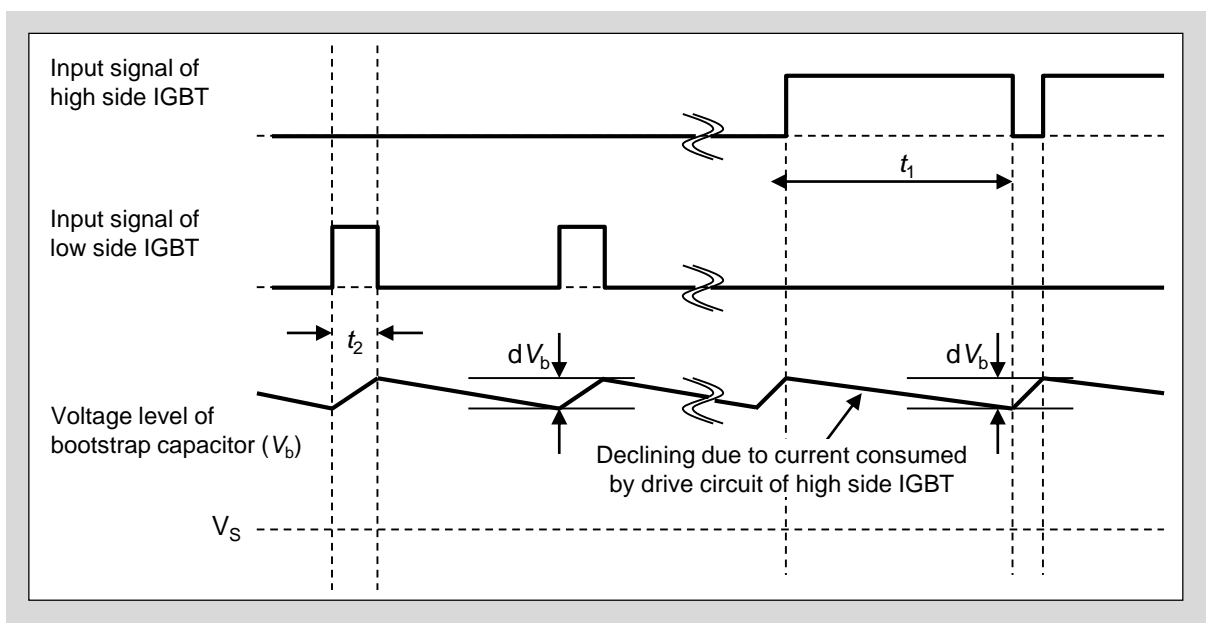

Fig.3-10 Timing chart of charging and discharging operation
- dV_b : the allowable discharge voltage. (see Fig.3-10)
- However, if the control mode only has the high side IGBT switching (Sequence Fig.3-10), the time constant should be set so that the consumed energy during the ON period can be charged during the OFF period.